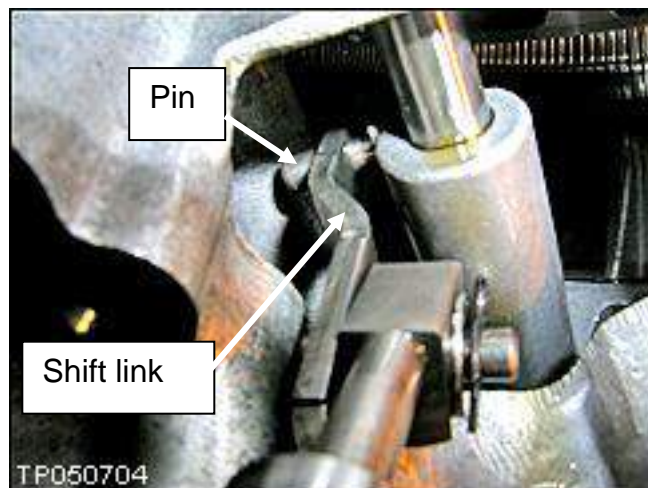

Figure 14
17. Install the new valve body and shift link with the fork end of the shift link around the pin as shown (see Figure 14).